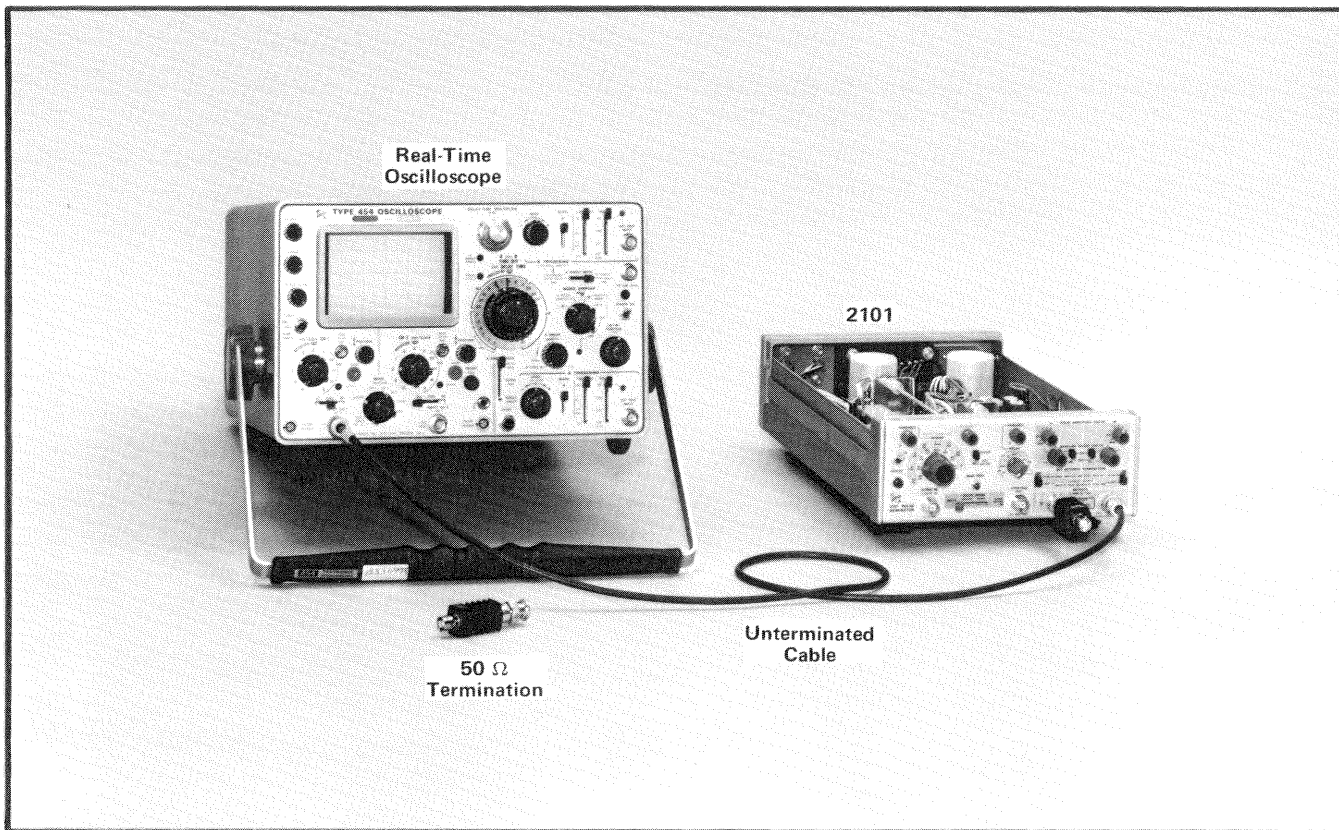

Fig. 5-16. Equipment setup to check internal source resistance, and output limiting. (Steps 20 and 21)
Control Settings for Fig. 5-16.
a. Equipment setup is shown in Fig. 5-16.
b. With the PERIOD selector at EXT TRIG, apply the \square OUTPUT from the 2101, through an unterminated coaxial cable to the high impedance input of a real time test oscilloscope. Set the 2101 and test oscilloscope controls and selectors as listed for Fig. 5-16.